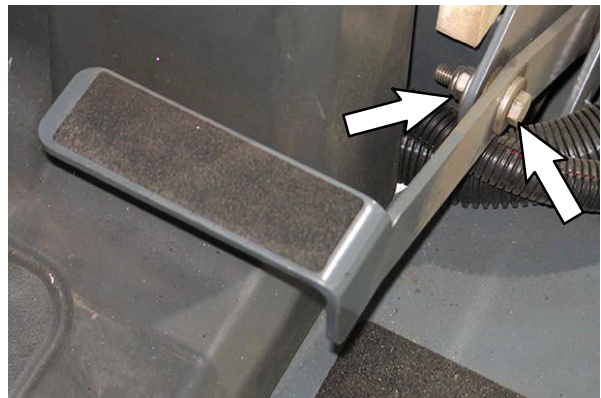

FIG. 6
8. Remove the skirt pedal from the machine. Set the skirt pedal aside. Discard all skirt pedal mounting hardware. (Fig. 6)